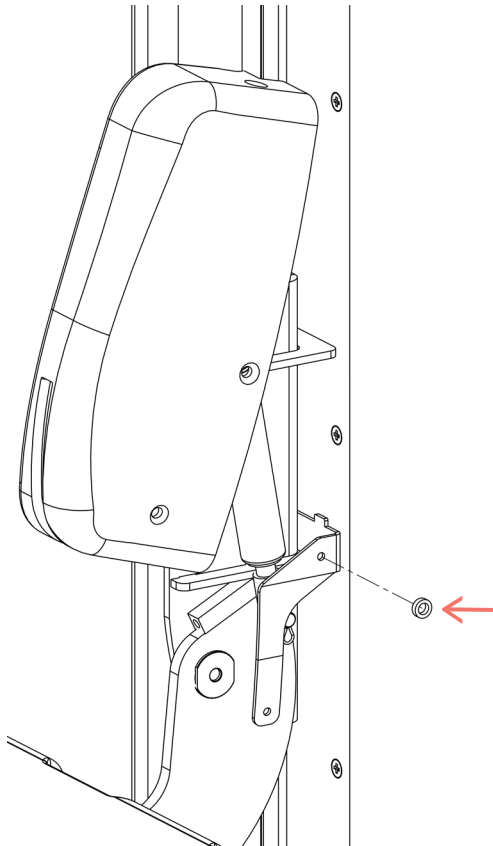

Fig 12.8b
- Ensure the spacer for the middle horizontal screw is fitted between the internal bracket and cover as shown in Fig 12.8b. Please use the longer M5 x 12 mm screw for this fitting.